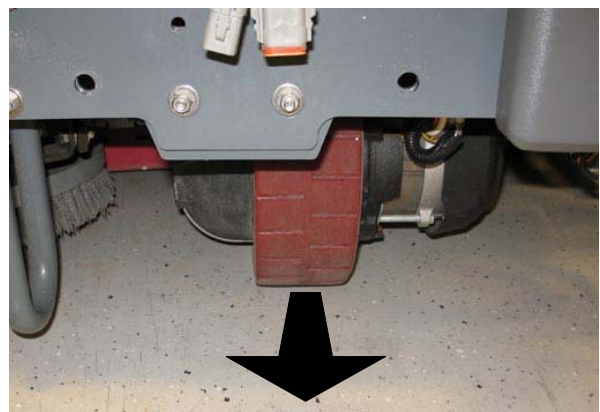

FIG. 14
29. Straighten the front wheel so it is pointing forward. (Fig. 14)